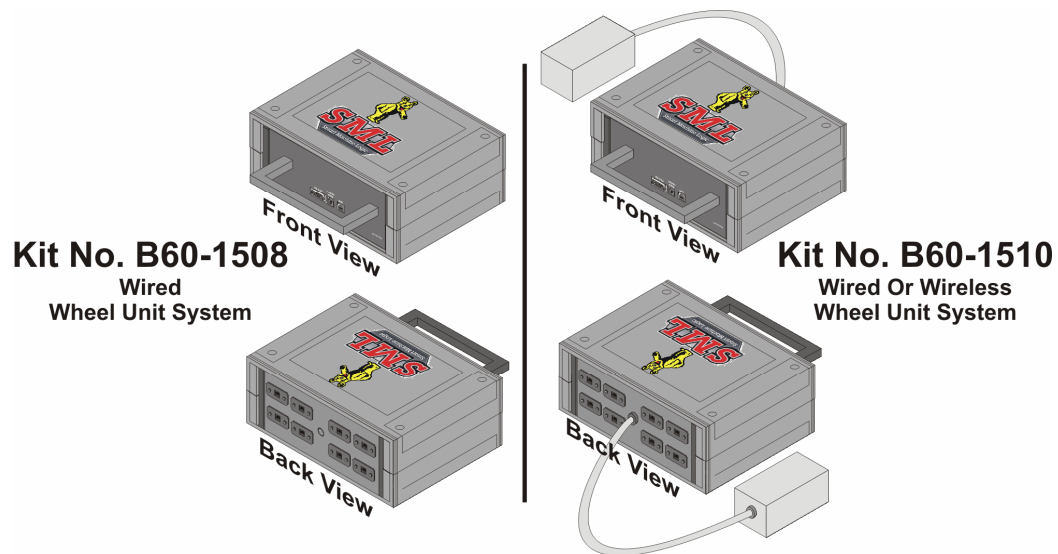

Figure 1-3. SML Interface Module
1.2.4.1 Open the shipping container and remove the SML Interface Module and all other items. Refer to Figure 1-3 as necessary.